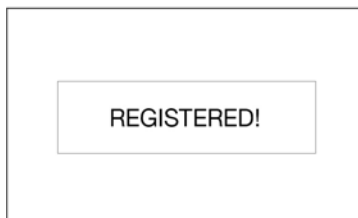

FIG. 17
5. After the metered dispense valve has successfully registered with the Pulse Fluid Management Software, REGISTERED displays (FIG. 17). Then the UTILITY MENU screen displays.